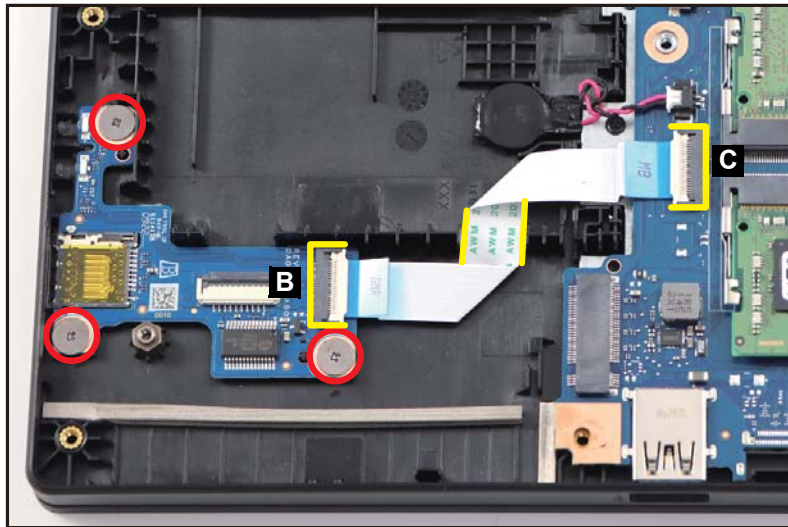

Figure 1-36. Card Reader Board Removal
2. Disconnect one end of the card reader board FFC from the card reader board connector (B). Then disconnect the other end of the FFC from the mainboard connector (C) (Figure 1-36).
3. Remove three (3) screws securing the card reader board (Figure 1-36).
Card reader board FFC (Flexible Flat Circuit) can be damaged if removed while the card reader board and mainboard connectors are locked. When removing the card reader board FFC, carefully lift the portion of FFC (highlighted by the yellow lines) to detach it from the adhesive tape underneath as shown in Figure 1-36.